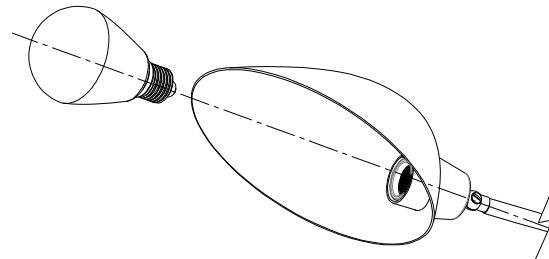

FIGURE-04
3. Install the bulbs into the socket of the fixture. (See Figure-04)